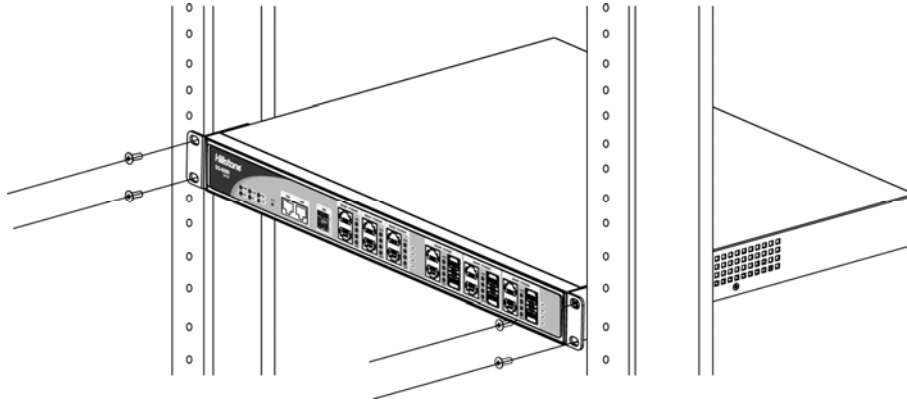

Figure 3-3: Installing the Appliance in a Rack (1U Chassis as example)
**Step 2:** Take out screws from the accessory box and fasten the rack-mounting ears of the chassis in the rack with the screws. Keep the center of rack-mounting ear and the center of the rack hole horizontally even, as shown in Figure 3-3.